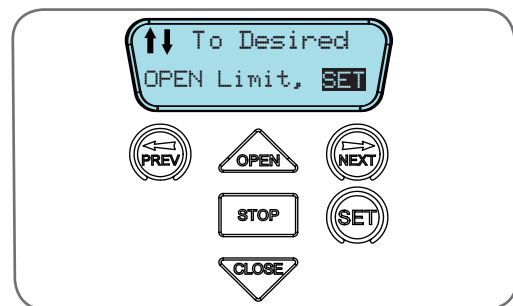

Fig 11.3
- d. When the door is at the desired close position, press the SET button to record the close limit position. The display will change and green open LED will start to flash (**Fig. 11.3**).